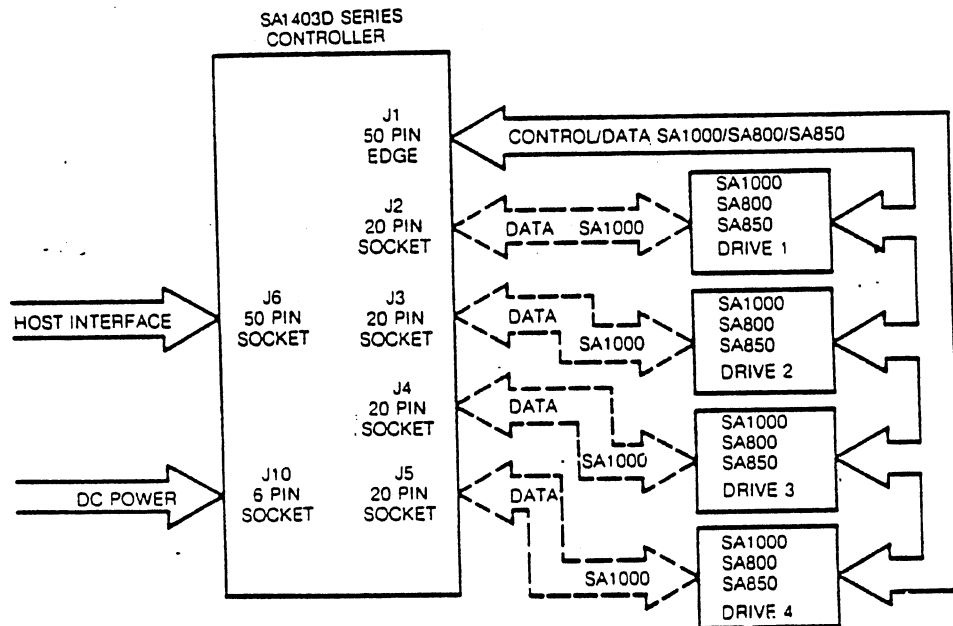

FIGURE 2. SA1403D INTERCONNECT DIAGRAM
The controller and data separator comprise a single PCB that can be mounted onto the SA1000 drive. A maximum of four (4) drives may be connected as shown in Figure 2.
Shugart SA1000 and SA800/850 disk drives are interfaced to the controller via J1, J2, J3, J4 and J5. Refer to Figure 2 for connection block diagram.